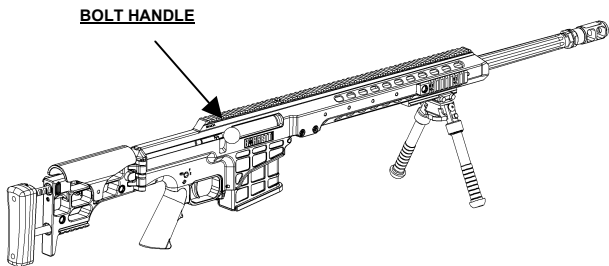

Figure 9.
2. Ensure the safety lever is in the safe position and raise the bolt handle fully. (Figure 9.)